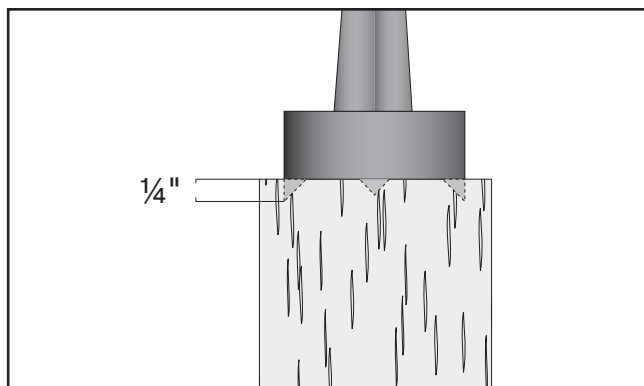

Figure 35. Spur center properly embedded.
6. Drive spur center into end center mark of workpiece with a wood mallet to embed it at least 1/4" into workpiece, as shown in **Figure 35**.